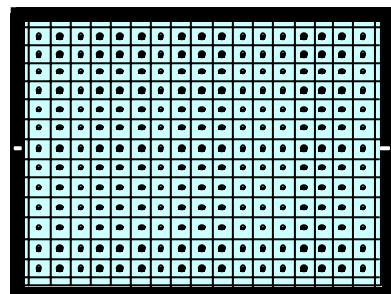

Fig.1-8 PAL CONVERGENCE
2. Use the VOLUME + or - key on the remote controller to adjust each box to draw a square. (Fig. 1-8)